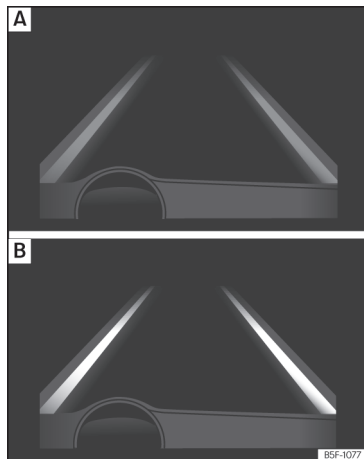

Fig. 278 On the instrument panel display: Indication on the Lane Assist system display (example 1).
- The system is active, but not available, either because the minimum speed has not been reached or because the lane lines are not recognised »»» Fig. 278 A.
- The system is active and available, both lane lines are recognised. The steering angle is not being corrected at this moment »»» Fig. 278 B.